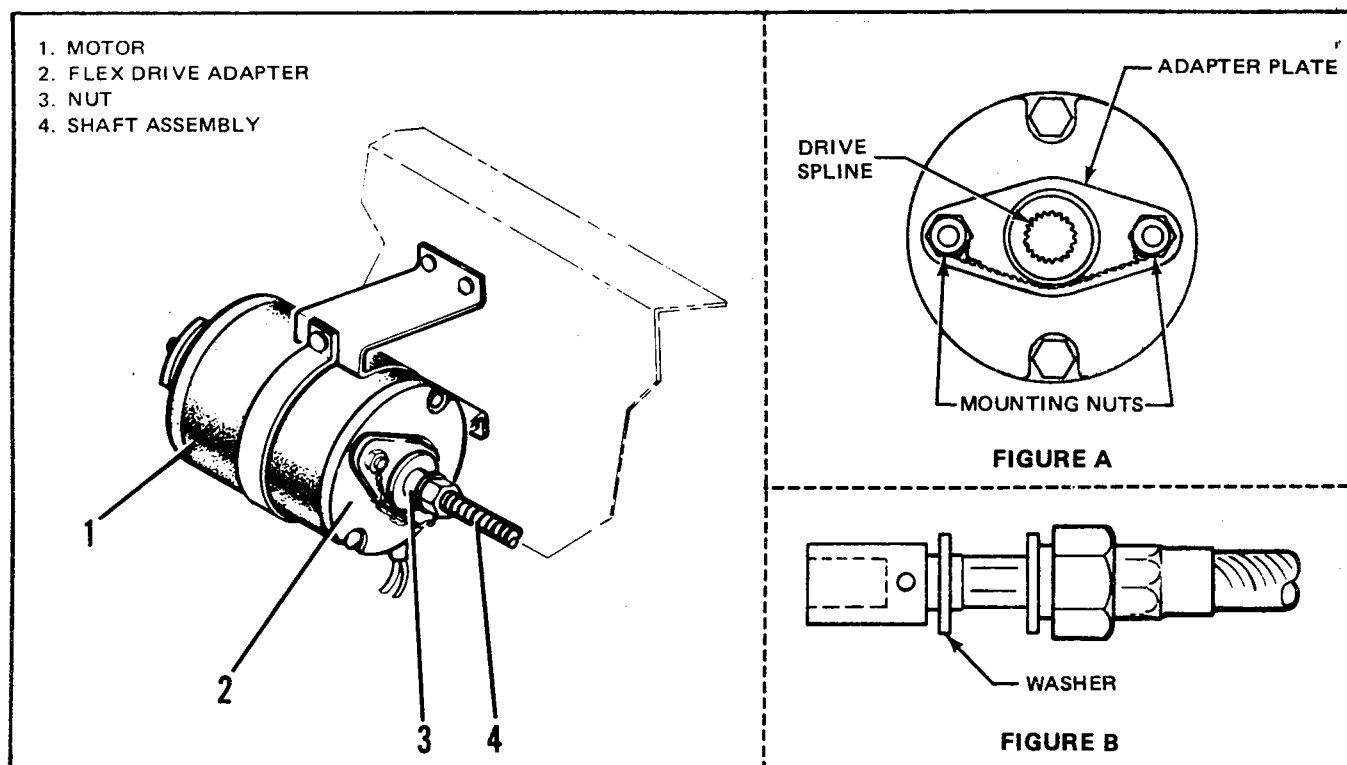

Figure 4. Wing Flap Motor
4. WING FLAP MOTOR NO LOAD RPM CHECK. (Refer to Figure 4.) This check for demagnetization of the flap actuating motor should be accomplished along with friction reduction per Instructions, No. 3, above if flap motor circuit breaker popping has been or remains a problem.
- With the wing flap motor (1) installed in the aircraft, disconnect both of the flexible drive shafts (4) and remove one of the flex drive adapters (2) from the motor.
5. WING FLAP MOTOR/FLEX SHAFT ENGAGEMENT CHECK, (Refer to Figure 4.)
- With both flexible drive cables disconnected at the motor, examine the splined coupling for wear and security. Examine the base of the swaged portion for wear under the washer (See Fig. 4-B). Wear in excess of .005 inch deep on the swaged terminal is cause for replacement of the cable assembly.
- If signs of wear are discovered (caused by the washer), recenter the adapter plate over the motor drive spline (See Fig. 4-A). Remove motor, loosen the adapter plate attachment nuts, recenter the plate over the spline and re-attach and secure the plate (in some cases, it may be necessary to rotate the plate 180° for better alignment).